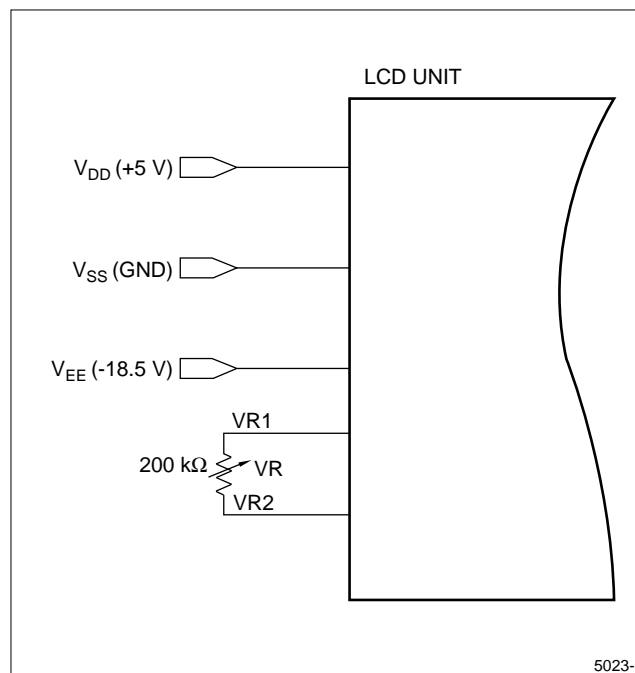

Figure 2. Display High Frequency Pattern
- Refer to the display high frequency pattern in Figure 2.